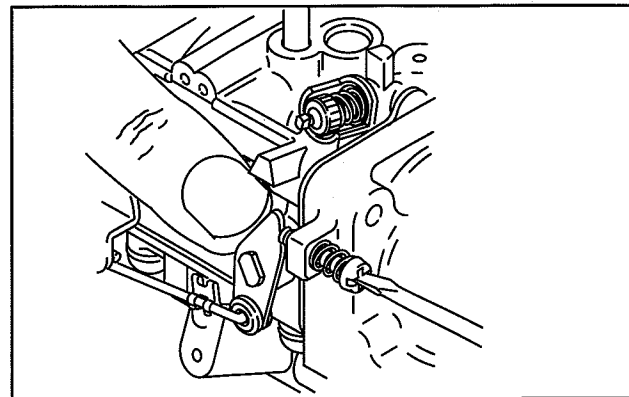

Fig. 142 – Adjust Idle Speed
2. Hold throttle lever against idle speed screw and temporarily adjust idle to **1200 RPM**, Fig. 142.